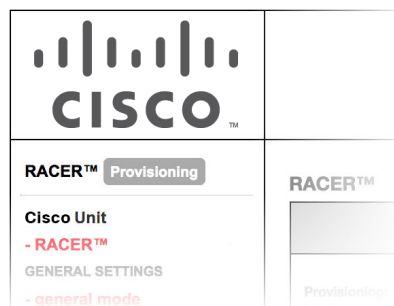

Figure 17. Racer status icon (Provisioning Mode)
- Check that the unit is in Provisioning Mode by looking at the colored icon to the right of the **RACER™** tag in the upper left-hand corner of the screen (Figure 17 \(page 37\)).